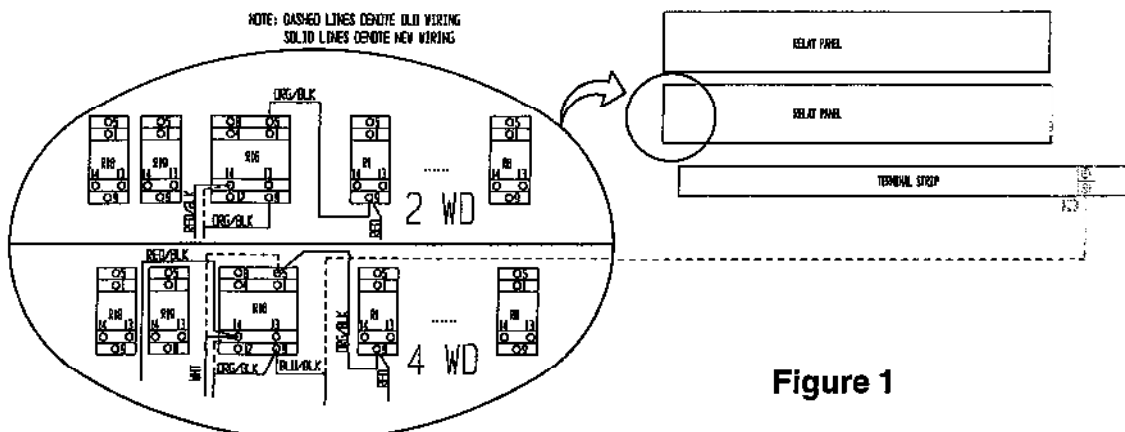

Figure 1
Read all instructions thoroughly and refer to Figures 1 - 6 before starting.
- A. In the Lower Control Box Assembly, move the orange/black wire from R16 Terminal #14 to R16 Terminal #9. Leave the red/black wires on Terminal #14. See Figure 1.
- B. Add an orange/black jumper from R1 Terminal #9 to R16 Terminal #5. Leave the red wire on Terminal #9 of R1. See Figure 1.
- D. Move the blue/black wire from Terminal Strip #23 to Terminal #9 of R16, located in the Lower Control Box. See Figure 1.
- E. Disconnect the white wire from R16 Terminal #5. Cut to fit and connect to Terminal #14 of R16. See Figure 1.
- F. Move the orange/black wire from R16 Terminal #14 to R16 Terminal #9. Leave the red/black wires on Terminal #14. See Figure 1.
- G. Add an orange/black jumper from R1 Terminal #9 to R16 Terminal #5. Leave the red wire on Terminal #9 of R1. See Figure 1.
PROCEDURES for Serial Numbers 2747 through 2965 only: Read all instructions thoroughly and refer to Figures 1 & 5 before starting.